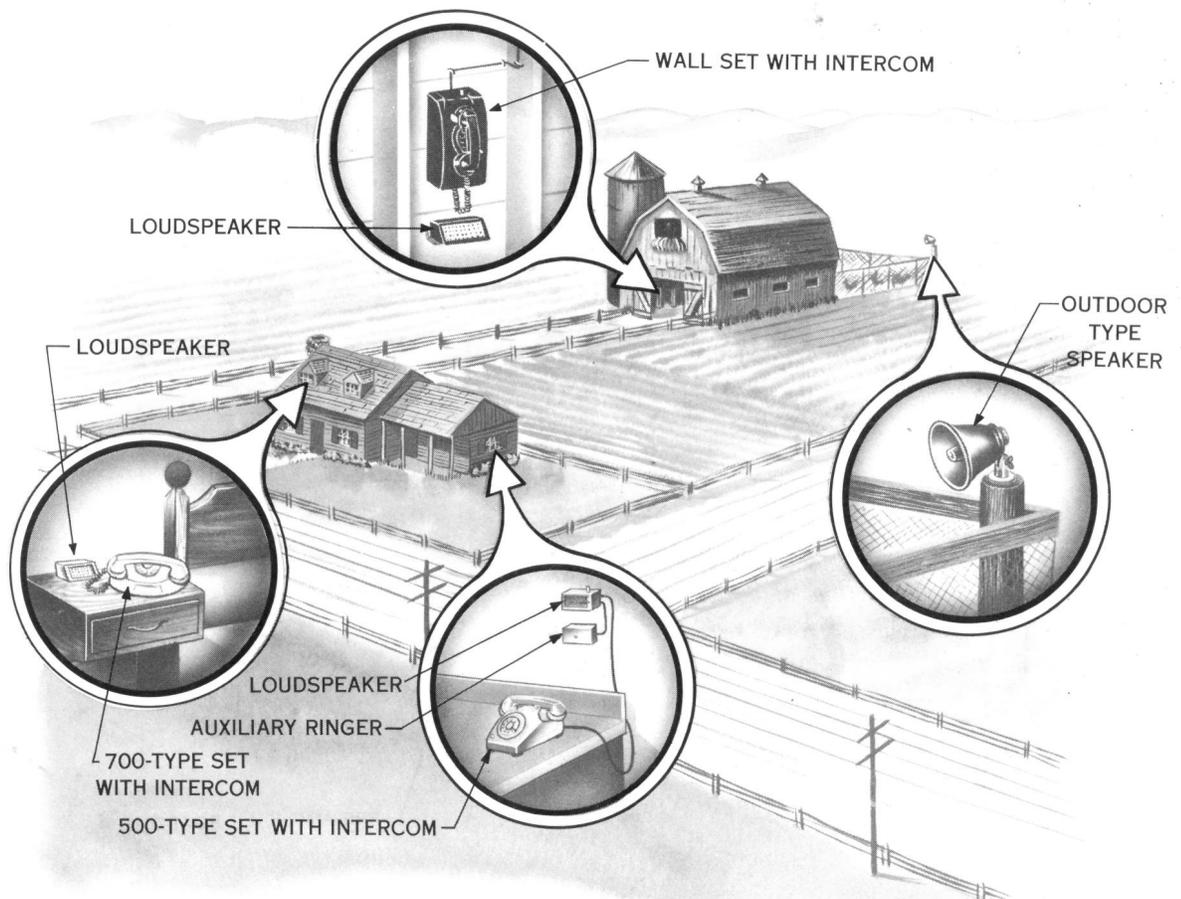

Fig. 1 - Typical Farm Arrangements
1.05 Apparatus may be arranged in various combinations (Fig. 1). When arranging the system, keep in mind that a loudspeaker must be associated with each telephone set. However, the following maxima may not be exceeded: